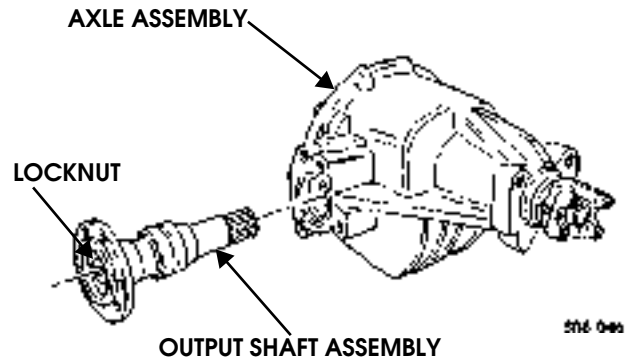

Figure 9-60: Output Shaft Assembly Removal
2. Loosen locknut on output shaft assembly (Figure 9-60).